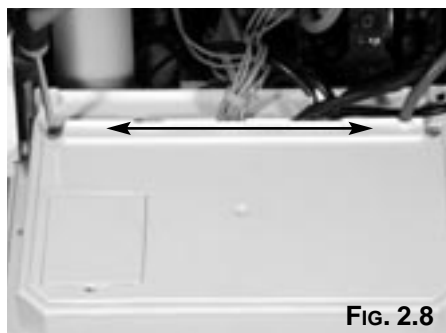

FIG. 2.8
1. Remove the service cover on the control panel (FIG 2.8).